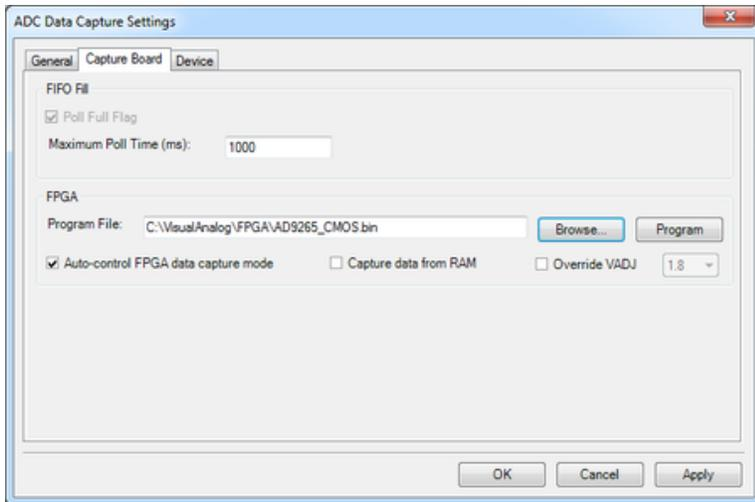

Figure 3b. VisualAnalog, Programming the FPGA for the AD9246S
2. Once Visual Analog opens click on the settings in the ADC Data Capture block to select the appropriate FPGA bin file for the AD9246S. For this product the FPGA bin file is AD9265\_CMOS.bin. Download this file from this Wiki page and save to a known location such as the one shown in Figure 3B. Select this file and click the **Program** button. (See Figure 3b)